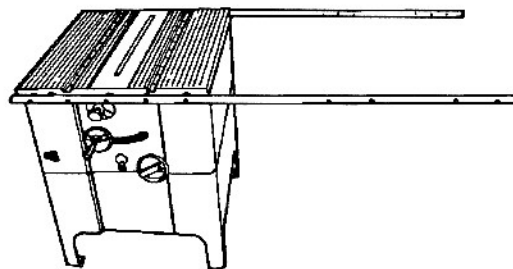
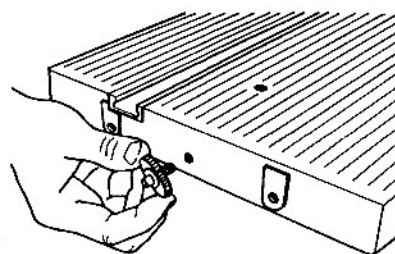

Fig. A-17
Fig. A-18
20. Fig. A-17 illustrates how your Sawsmith 2000 Pro Model should look now. Screw a thumb screw (401) into the middle hole on each end of both fixed extension tables (410), as illustrated in Fig. A-18.
26. Install a thumb screw in both ends of the fixed extension table, as illustrated in Fig. A-18.